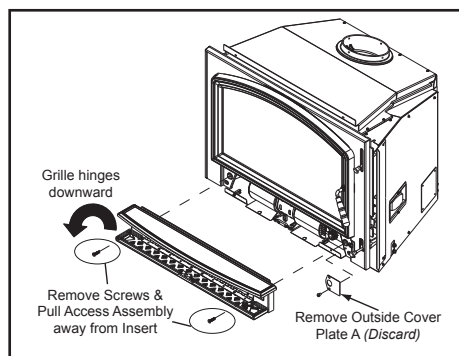

Figure 40.1
1. Swing grille down to expose the two screws. **Figure 40.1**